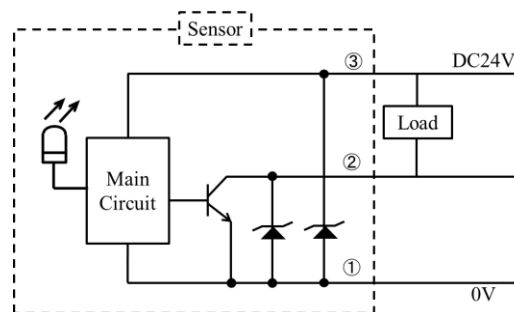

Figure 1. INTRENAL CIRCUIT
2.11 Internal Circuit	Figure 1